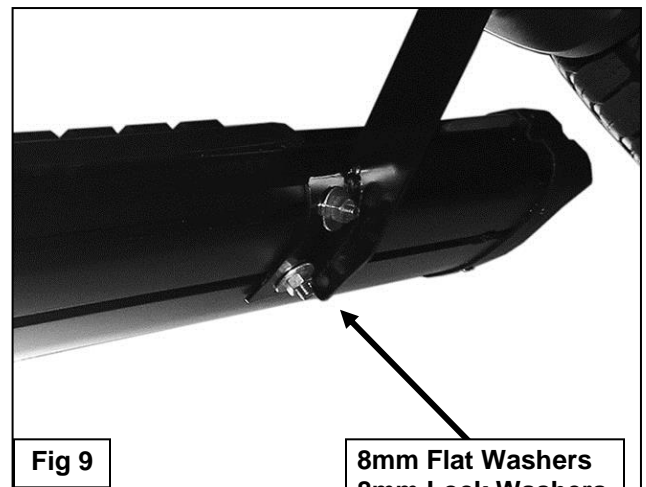

Fig 9
- Select the driver/left sidebar. Locate the opening in the end of the channels in the bottom of the Sidebar. Slide (3) 8mm T-Bolts into each channel, **(Figure 9)**. Carefully position the Driver Sidebar onto the (3) Mounting Brackets. Lift the Sidebar up and slide the T-Bolts along the sidebar to match up with the Brackets. **IMPORTANT:** Do not slide, (front to back or rotate), the Sidebar on the Brackets or damage to the finish on the Sidebar may result. If you are having any difficulty with installation, check Mounting Bracket location first. Use the illustration on **Page 1** to identify the Mounting Brackets.
- Line up the front of the Sidebar approximately 2" back, (or locate as desired), from the front wheel opening. Attach the Sidebar to the Mounting Brackets with (6) 8mm Flat Washers, (6) 8mm Lock Washers and (6) 8mm Hex Nuts, **(Figure 9)**. Do not tighten hardware at this time.